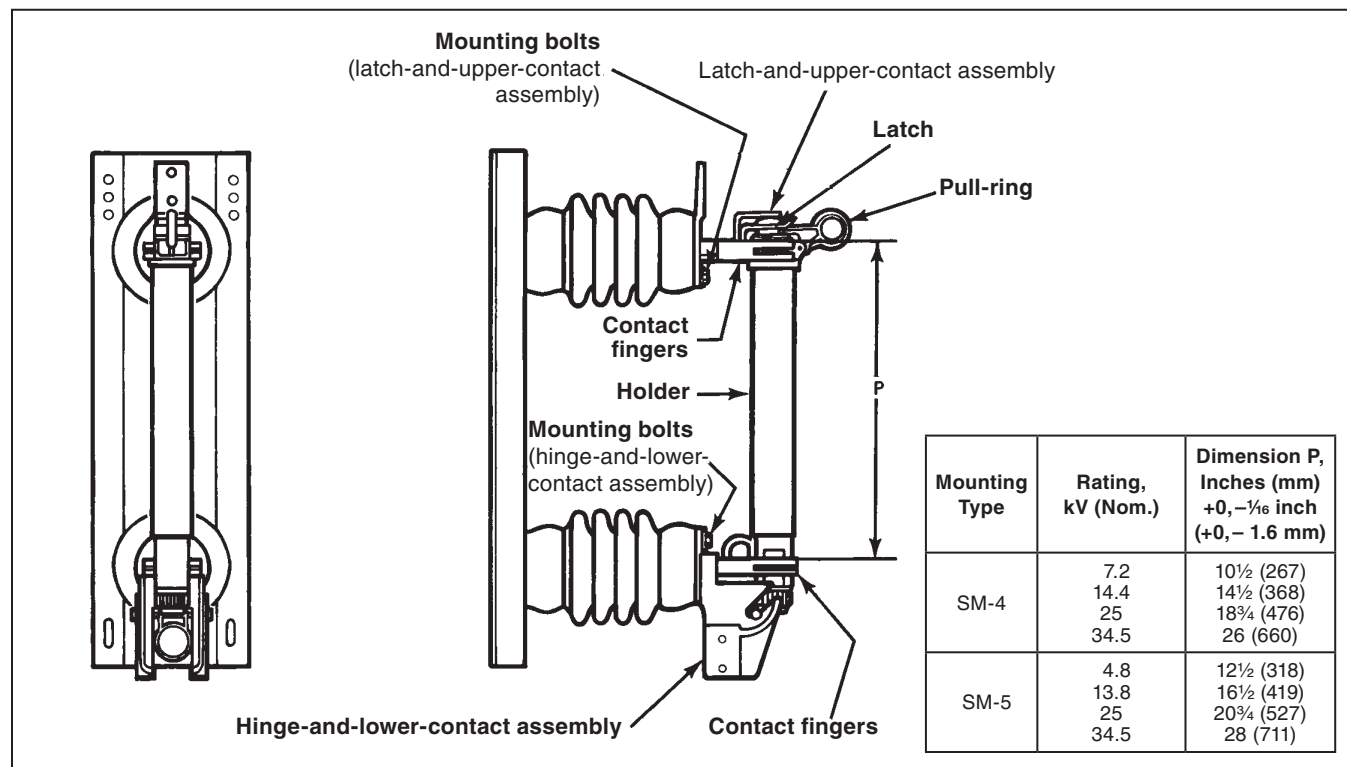

Figure 1. Live-part spacing for S&C Power Fuses—Types SM-4 and SM-5, Disconnect, 180° Opening, Vertical, and Disconnect, 90° Opening, Inverted Styles.
STEP 1. Accurately measure the distance between the contact fingers of the latch-and-upper-contact assembly and the corresponding contact fingers of the hinge-and-lower-contact assembly. See Figure 1. Make sure this dimension is within the tolerance established for Dimension P. If adjustment is necessary, loosen the latch-and-upper-contact assembly mounting bolts and move the assembly toward or away from the hinge-and-lower-contact assembly as required to bring the mounting to within the specified Dimension P limits. Make certain Dimension P distance is maintained between upper and lower contact fingers on both sides of the fuse mounting. Fully tighten the latch-and-upper-contact assembly mounting bolts.
STEP 4. A coating of NO-OX-ID® “A Special” oxidation-inhibiting grease was applied to the stationary-contact surfaces of the latch-and-upper-contact assembly and hinge-and-lower-contact assembly at the factory. See Figure 1 on page 7 for the relative location of these surfaces on the latch-and-upper-contact assembly. Verify the presence of this oxidation-inhibiting grease and that it is still free of contaminants. If necessary, clean the contact surfaces with a nontoxic, nonflammable solvent and apply a coating of NO-OX-ID “A” Contact Lubricant (available from Sanchem Inc.) or a similar nonmetallic-filler oxidation-inhibiting grease.